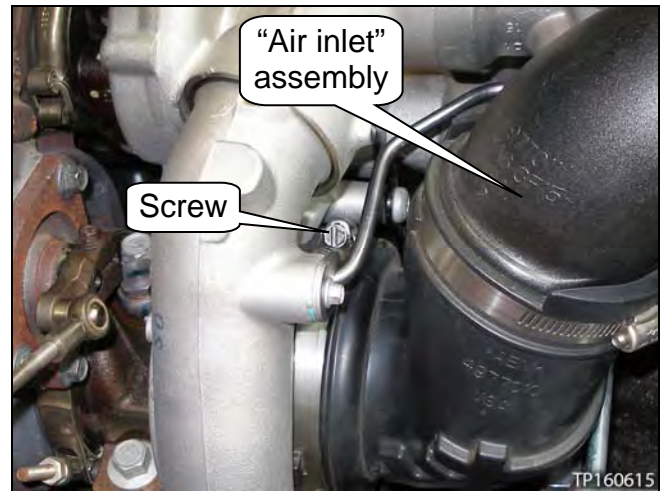

Figure 68
14. Remove the cap from the low pressure turbocharger, and then install the air inlet connection assembly (see Figure 68).